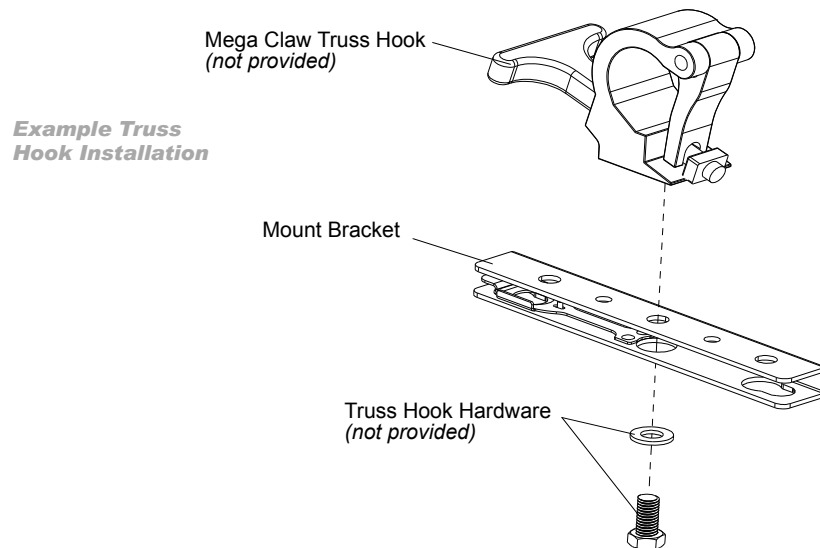

Figure 2-6: Truss Hook Installation
- Step 1. Install truss hooks (also refer to “Truss Hook Hardware \(by others\)” on page 20) for additional information) on two provided truss hook brackets as required as shown in Figure 2-6.
When installing hanging hooks on mounting brackets, Vari-Lite strongly recommends the use of a Belleville washer (*by others*, Figure 2-7 shows examples) when installing a truss hook or claw as shown in Figure 2-6.